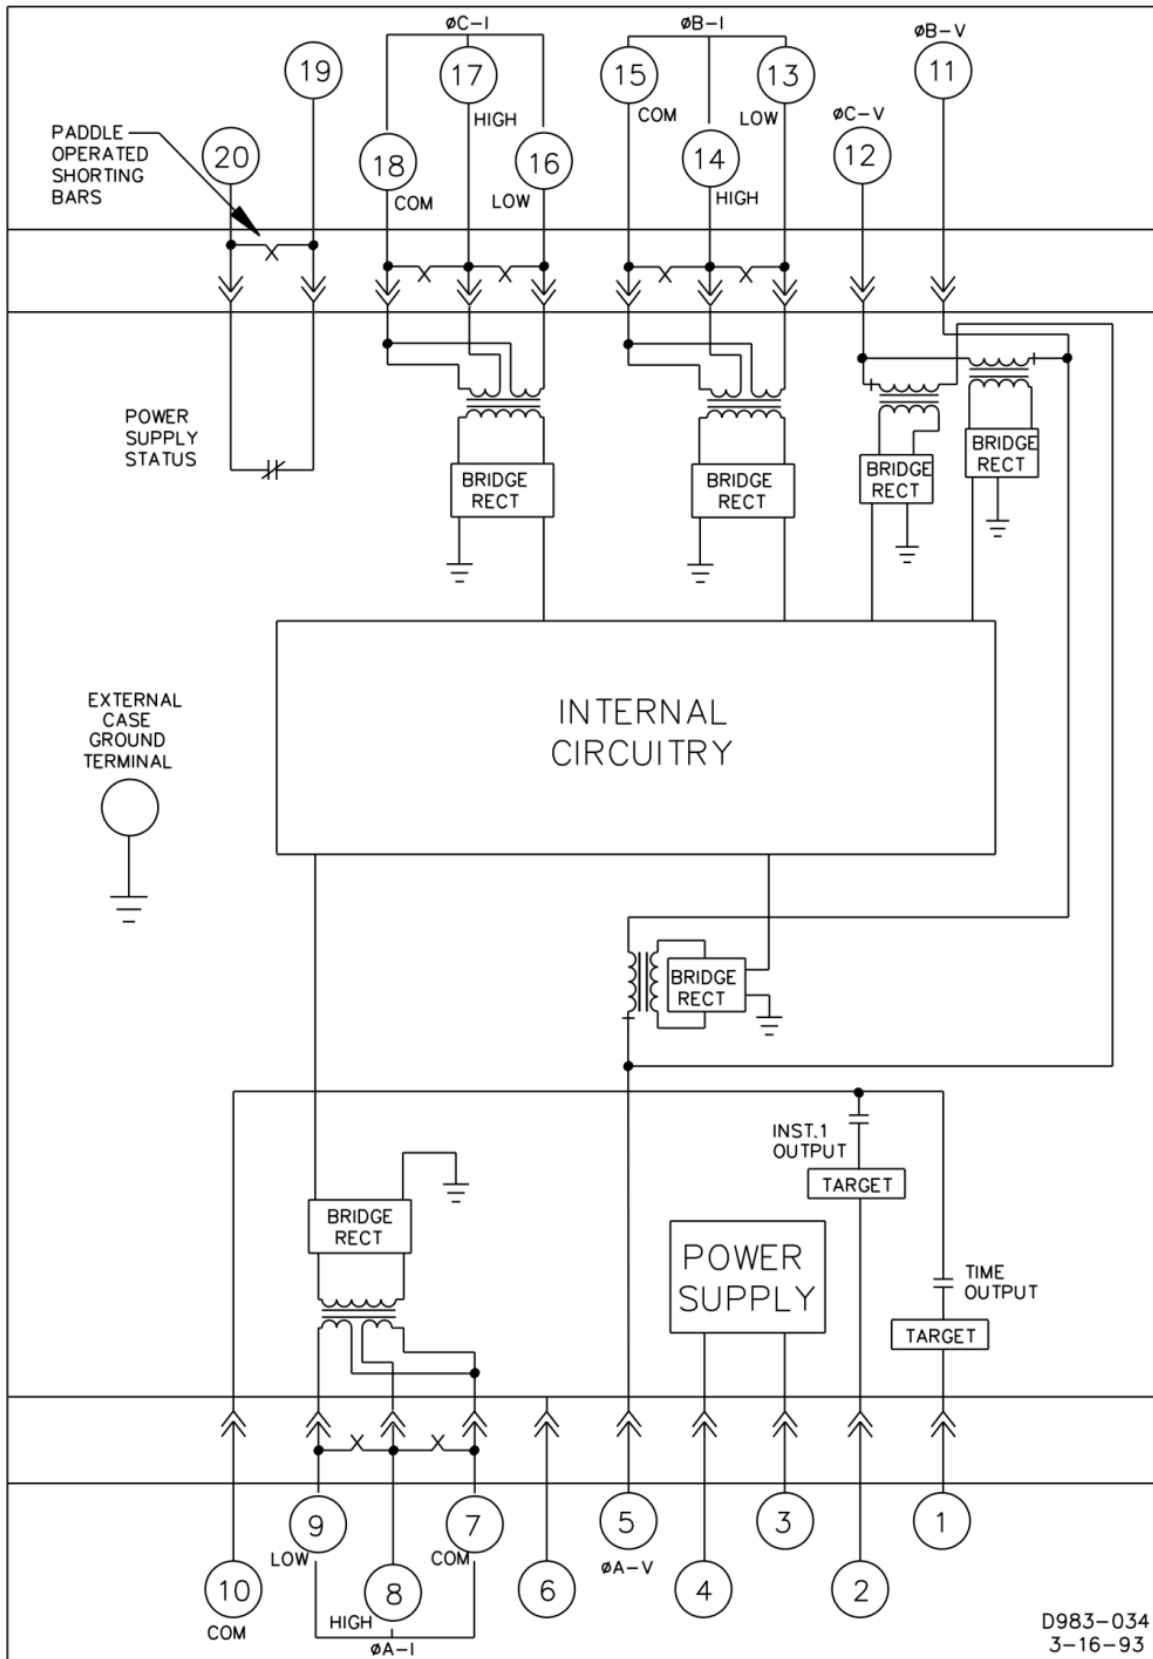

Figure 4-22. Typical Internal Diagram, Sensing Input Type B or C
- Figure 4-22: Typical Internal Diagram, Sensing Input Type B or C